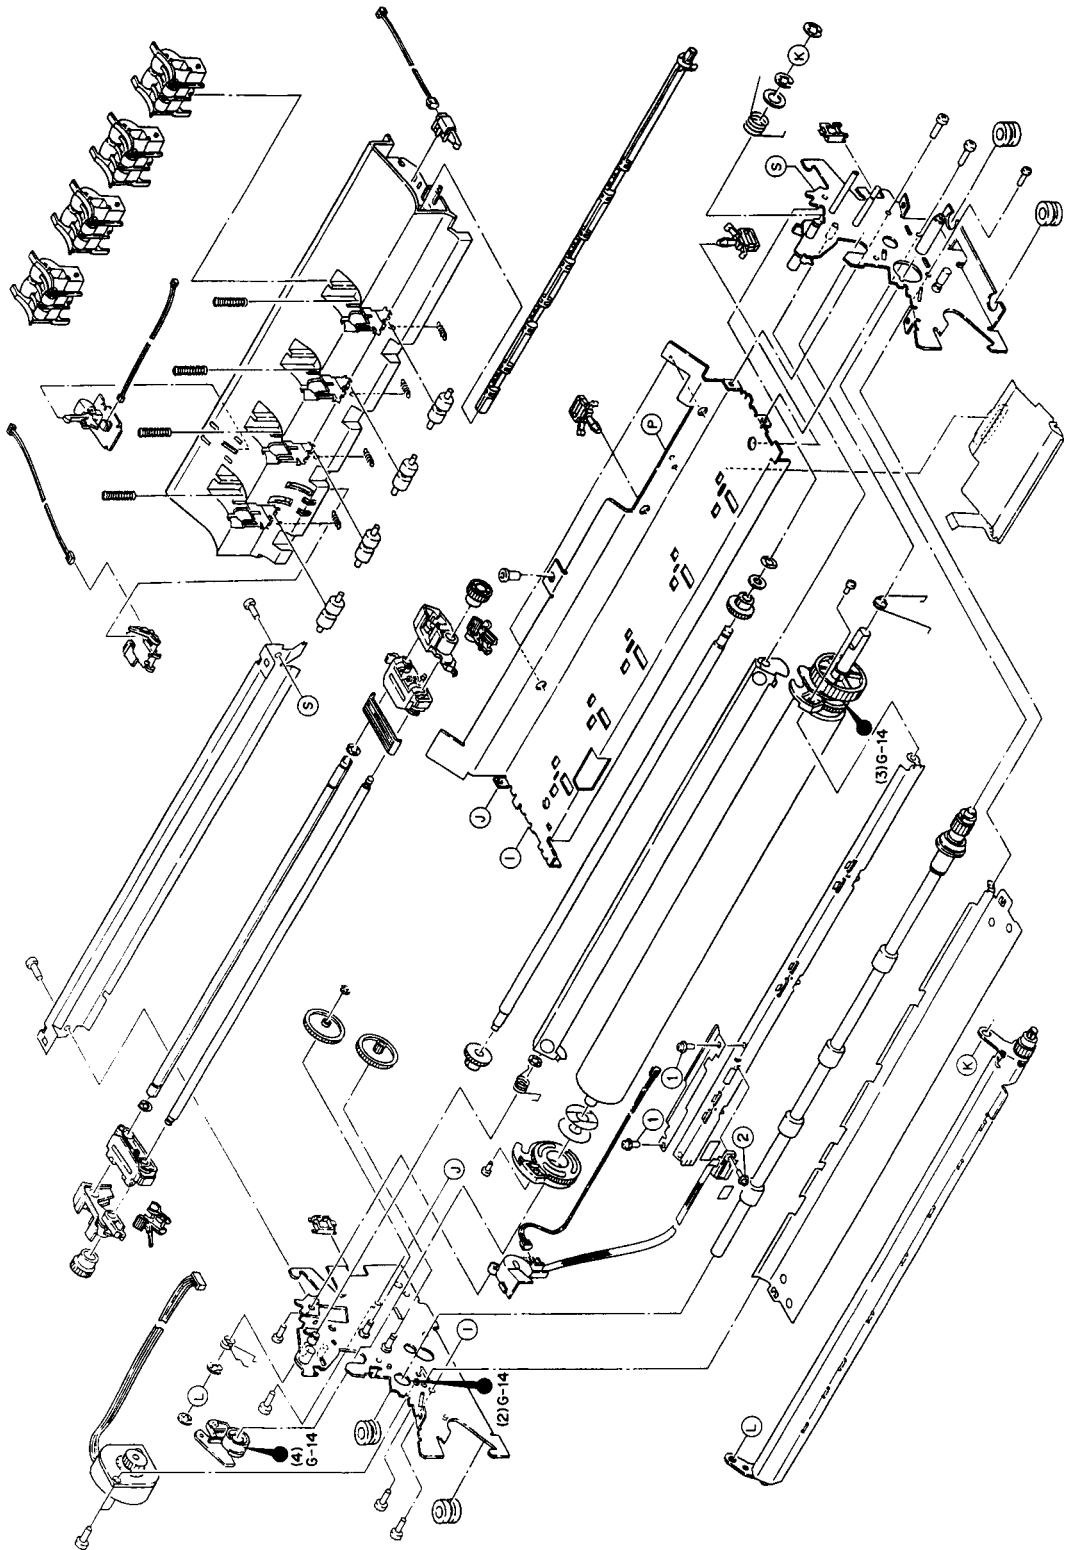

Figure 6-2. Lubrication Points (1)
**Table 6-3. Adhesive Application Points (Refer to Figure 6-2 to Figure 6-3.)**